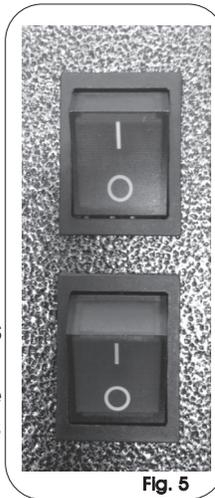

Fig. 5
1. Ensure both switches are in the off (0) position before connecting the heater to the mains supply (Fig.5).
5. On the side of the heater there are two switches (Fig.5), the top one operates the top element, and the bottom one operates the bottom element.
6. Select the desired heat output by pressing one of the switches to the on (I) position for half heat output, or both switches to on (I) for full heat output.
7. To switch the heater off, switch both switches to the off (0) position.